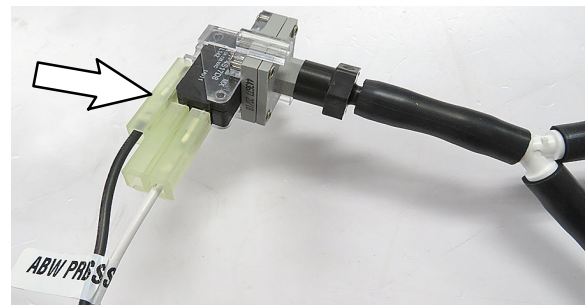

Fig. 9
11. Reconnect the wires to the new pressure switch on the new water delivery assembly (Figure 9).